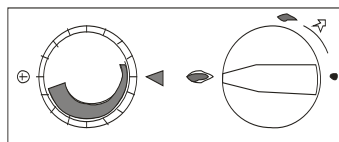

Figure 4- Main Burner Operational, but gas flow off
2. Turn the IGNITION KNOB anticlockwise to the main flame position as shown in **Figure 4**.